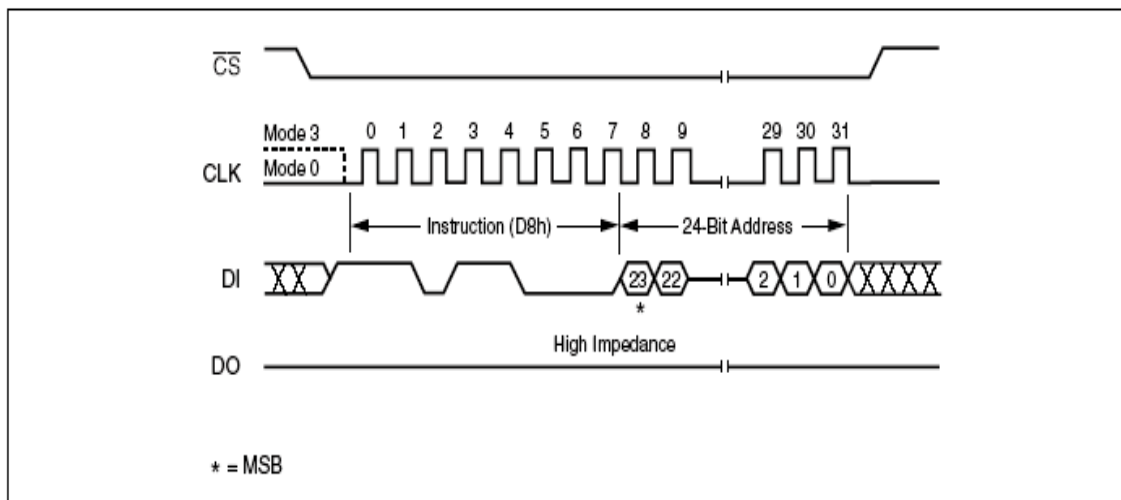

Figure 13 Block Erase Instruction Sequence Diagram
The instruction sequence is shown in Figure 13. Chip Select ($CS\#$) must be driven High after the eighth bit of the last address byte has been latched in, otherwise the Block Erase (BE) instruction is not executed. As soon as Chip Select ($CS\#$) is driven High, the self-timed Block Erase cycle (whose duration is t_{SE}) is initiated. While the Block Erase cycle is in progress, the Status Register may be read to check the value of the Write In Progress (WIP) bit. The Write In Progress (WIP) bit is 1 during the self-timed Block Erase cycle, and is 0 when it is completed. At some unspecified time before the cycle is completed, the Write Enable Latch (WEL) bit is reset.